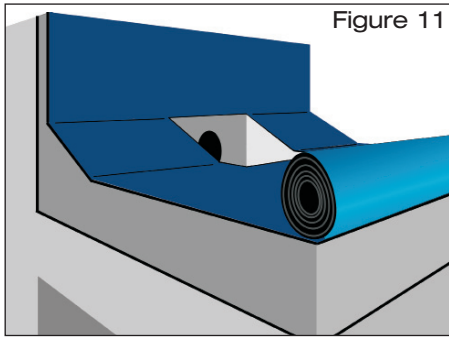

Figure 11
- 2.5 Unroll the second layer of the roof sealing sheet over the drain. Make cut-outs in the area of the scupper drain with dimensions according to the outer contours of the strainer opening (fig. 11). Roll back the second layer of the roof sealing sheet, weld the connecting sheet and the second layer of the roof sealing sheet in accordance with the laying instructions from the manufacturer of the roof sealing sheet.